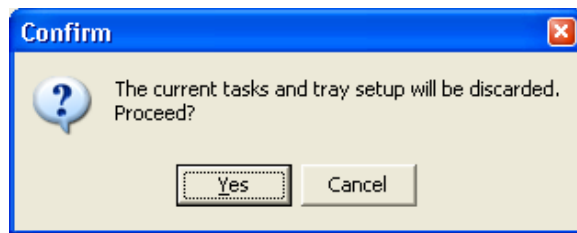

FIGURE 2-28 Confirm Discarding the Tray and Tasks
- b) The **Confirm** message box will be presented. Choose **Yes** (FIGURE 2-28) if you are willing to lose any unsaved data. If you want to keep the existing tray and tasks setup, quit with **Cancel** and start the wizard from the **File** menu (**New/Tray**).